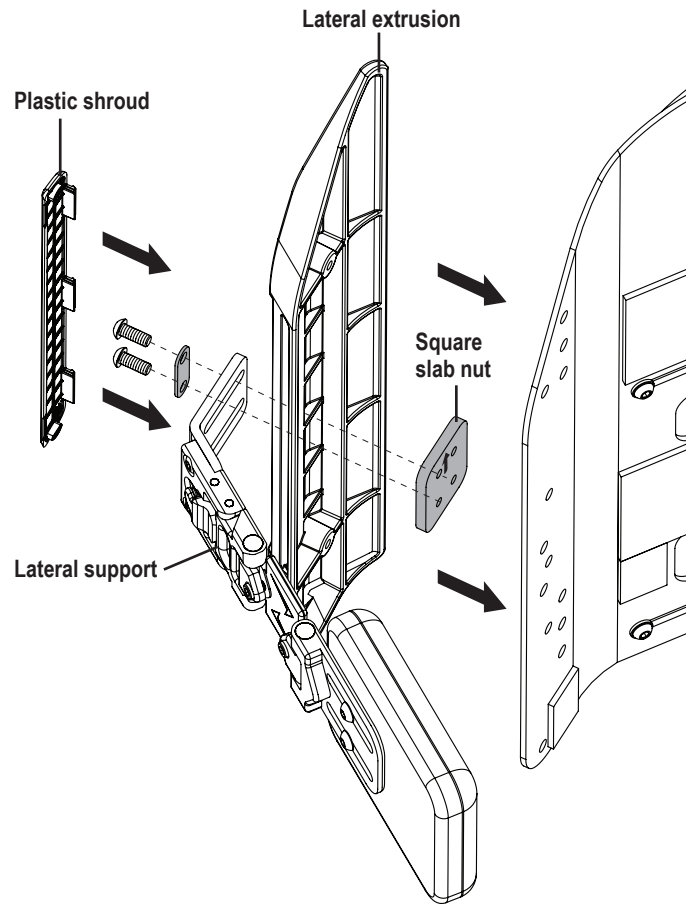

Figure 25. Laterals
3. Install the lateral support into the lateral extrusion. **See figure 25.**
4. Insert the spacer and the two (2) bolts through the lateral support and the square slab nut. Do not tighten completely.
1. Loosen the two (2) bolts in the lateral extrusion.
2. Slide the lateral support to the desired height and width. **See figure 25.**